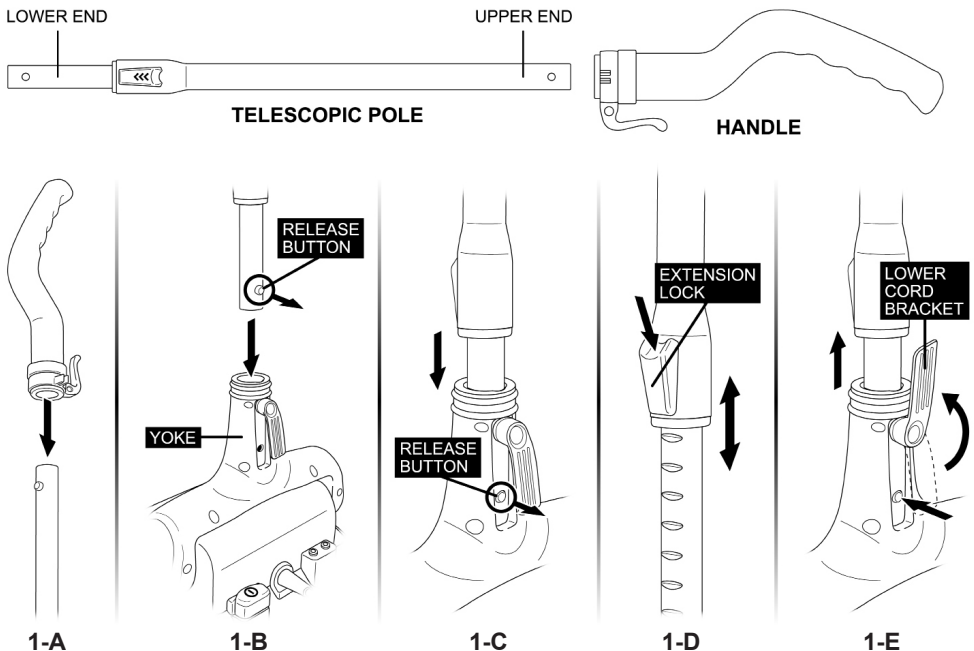

FIGURE 1
1. Connect Handle to upper (thicker) end of Telescopic Pole. To do this, simply slide Handle onto Pole until it snaps in place (FIGURE 1-A).
2. Insert lower (thinner) end of Telescopic Pole into yoke on top side of Mop Head. When inserting, make sure release button located on Pole faces towards back side of yoke as illustrated (FIGURE 1-B).
3. Press Telescopic Pole into yoke until release button snaps through small hole on back side of bracket (FIGURE 1-C). Pole should now be secured to Mop Head.
4. To adjust length of Telescopic Pole, press Extension Lock downward. While holding Lock down, move the upper section of Pole until it is at the desired length (FIGURE 1-D). Release Lock, then adjust upper section of Pole again until it “clicks” securely into place.
5. To disconnect Telescopic Pole, swivel lower Cord Bracket 180° upward, then press firmly on release button while simultaneously pulling Pole away from Mop Head yoke (FIGURE 1-E).